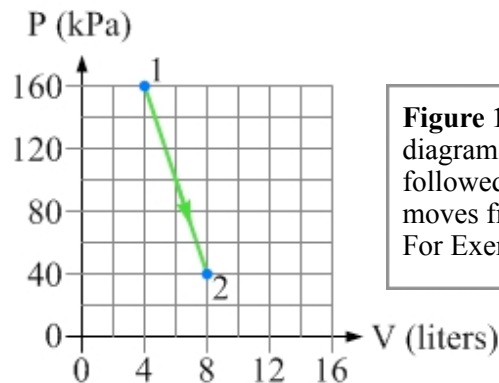

Figure 15.32: The P-V diagram shows the process followed by a system as it moves from state 1 to state 2. For Exercise 50.
50. A system of monatomic ideal gas is moved from state 1 to state 2 by the process shown in Figure 15.32. (a) Determine the work done by the gas in this process. (b) Determine the change in internal energy for this process. (c) Determine the amount of heat associated with this process, and state whether heat was transferred into the gas or out of the gas.